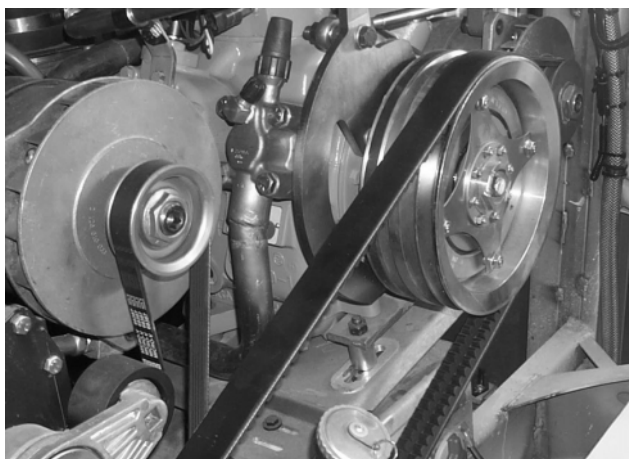

Figure 1: A powerband replaces two V-belts to provide a smoother compressor drive
2.1 In order to promote smoother running, the engine to AC compressor drive has been changed. A single powerband now replaces the two V-belts that were standard equipment on earlier coaches (see Figure 1).